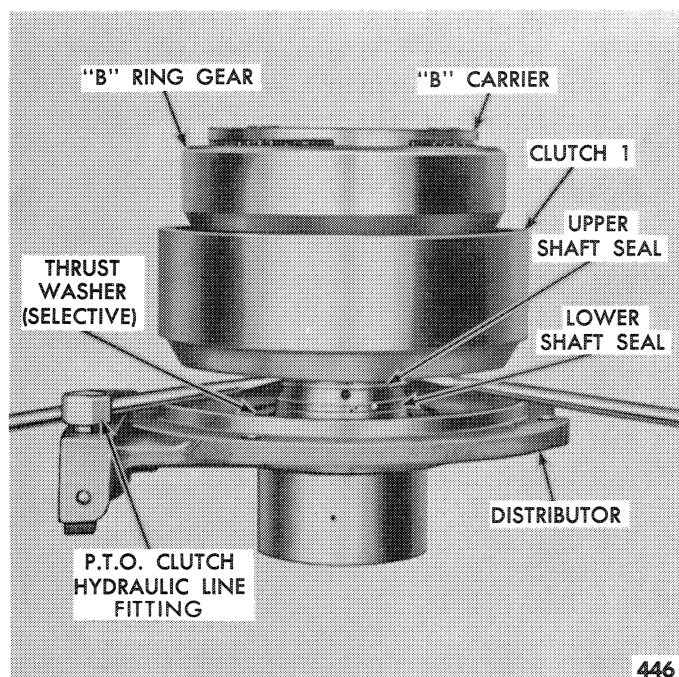

Figure 128—Installing the Distributor Shaft in Clutch 1
5. Install the selective thrust washer, shown in Figure 128, over the distributor shaft. Install and center the shaft seals.
in place, "B" ring gear and clutch 1 assembly over the distributor shaft, as shown in Figure 128. Carefully insert the upper shaft seal into its groove with two screwdrivers to permit lowering the clutch. The lower shaft seal is locked, as shown, to facilitate entry into the clutch hub. Install this assembly in the transmission case being careful to align the two hydraulic lines (main supply and P.T.O.). The servo 1 tube may be installed after distributor installation is completed.